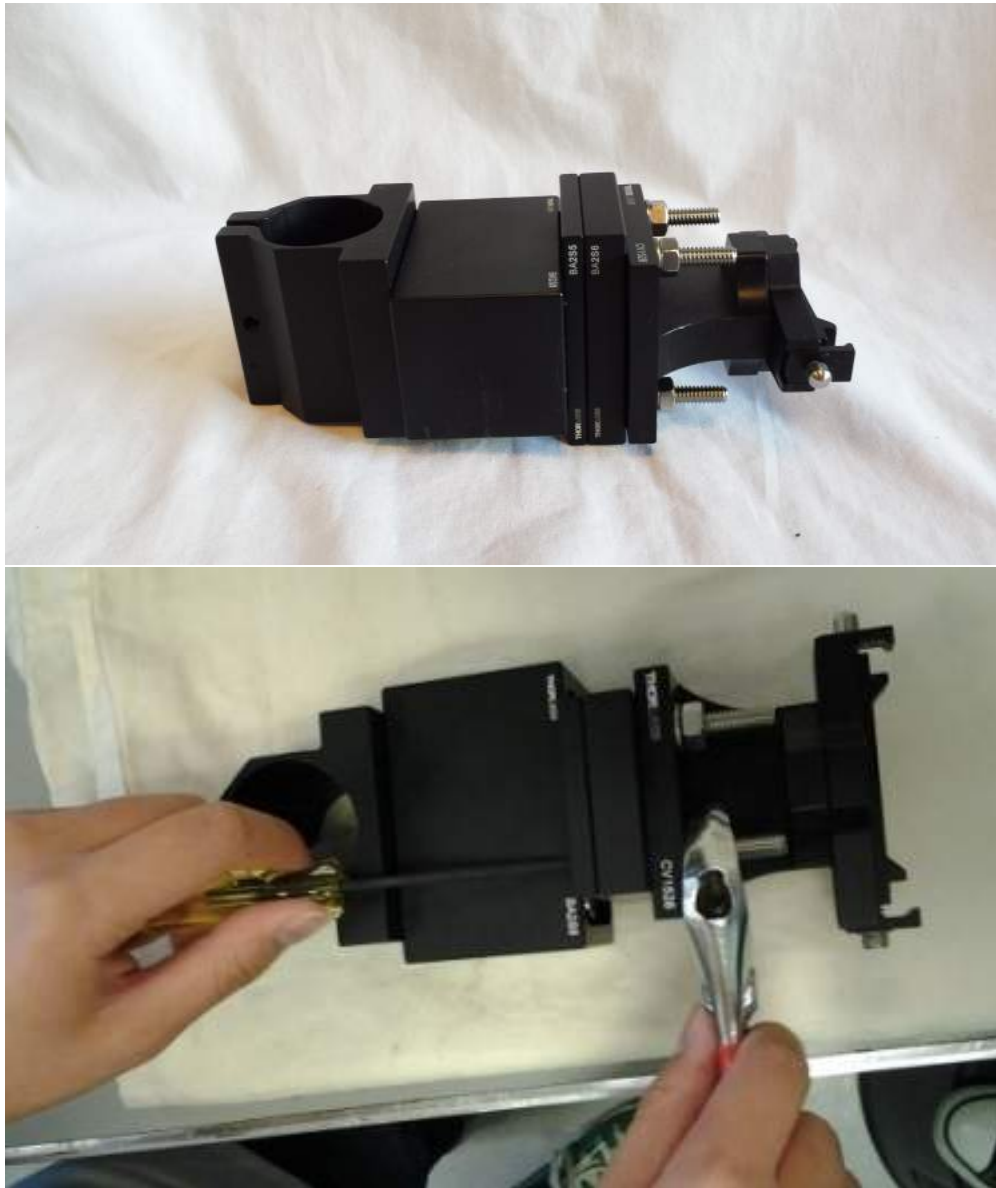

Figure 16: Steps 13 and 14
13. Slide washers (x4) onto the threads and then use nuts (x4) to fasten the assembled part from step 7 to the other risers (see Figure 16).
14. Use a small hex screwdriver that fits through the opening to keep the 2" screw from rotating while using a wrench to tighten each nut (see Figure 16).